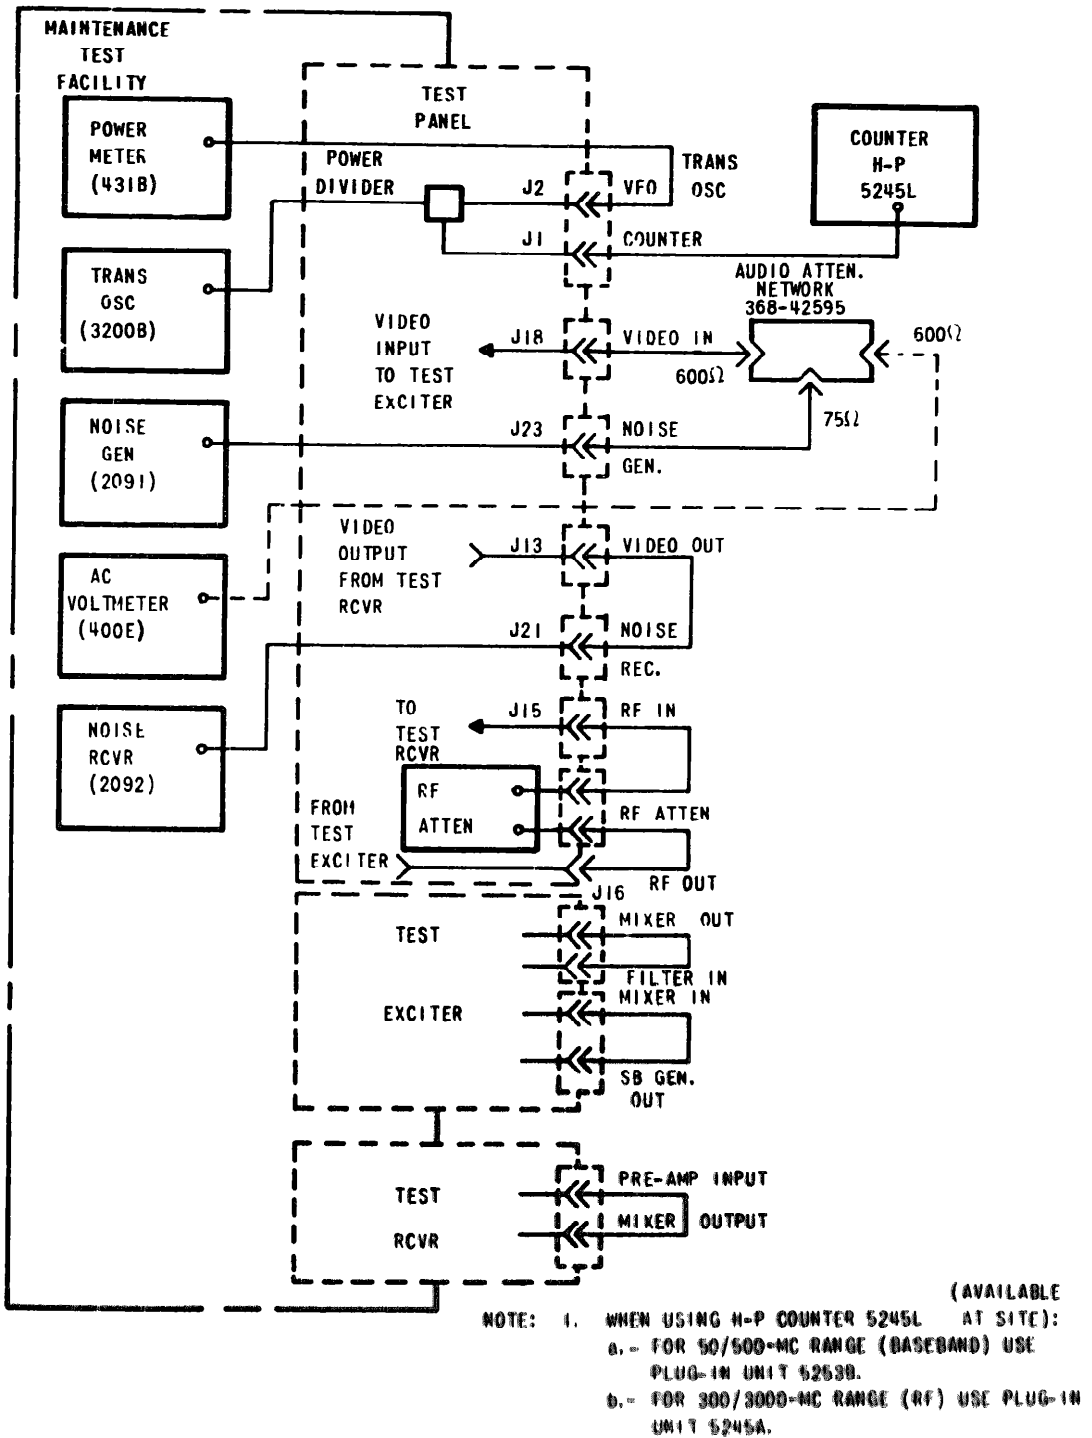

Figure 3-4. Test Exciter-Test Receiver Self-Check (Complete Loop Check). Cable Connections
- a. Connect the equipment test cables of the Maintenance Test Facility as shown in figure 3-4.